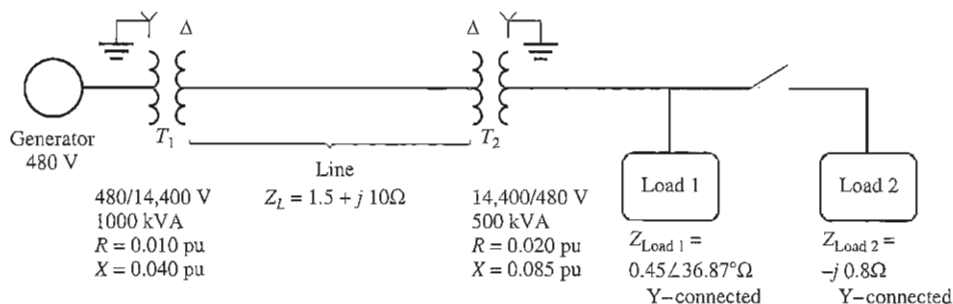

FIGURE P2-4
- 2-24.** Figure P2-4 shows a one-line diagram of a power system consisting of a three-phase, 480-V, 60-Hz generator supplying two loads through a transmission line with a pair of transformers at either end. (NOTE: One-line diagrams are described in Appendix A, the discussion of three-phase power circuits.)